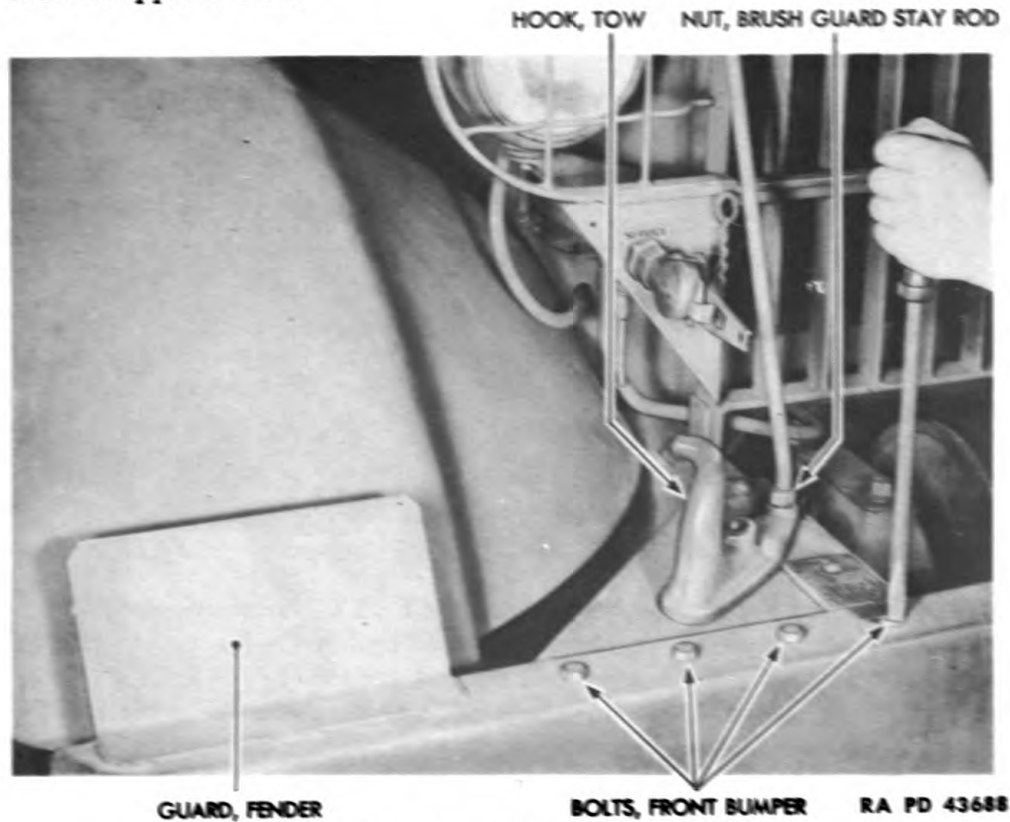

Figure 132—Removing Front Bumper
(1) REMOVE FRONT BUMPER BOLTS (fig. 132).
(2) LOOSEN TOW HOOKS (fig. 132).
(b) Loosen brush guard rod nut ($\frac{15}{16}$ -in. open-end wrench) (fig. 132).
(c) Remove tow hook bolt nut and lock washer from tow hook and swing tow hook to one side (1-in. socket wrench) (fig. 132). Repeat procedure on opposite tow hook. **NOTE:** There is a front bumper bolt underneath each of the tow hooks.
(a) Install 14 front bumper bolts, nuts and lock washers that hold bumper to frame (fig. 132).